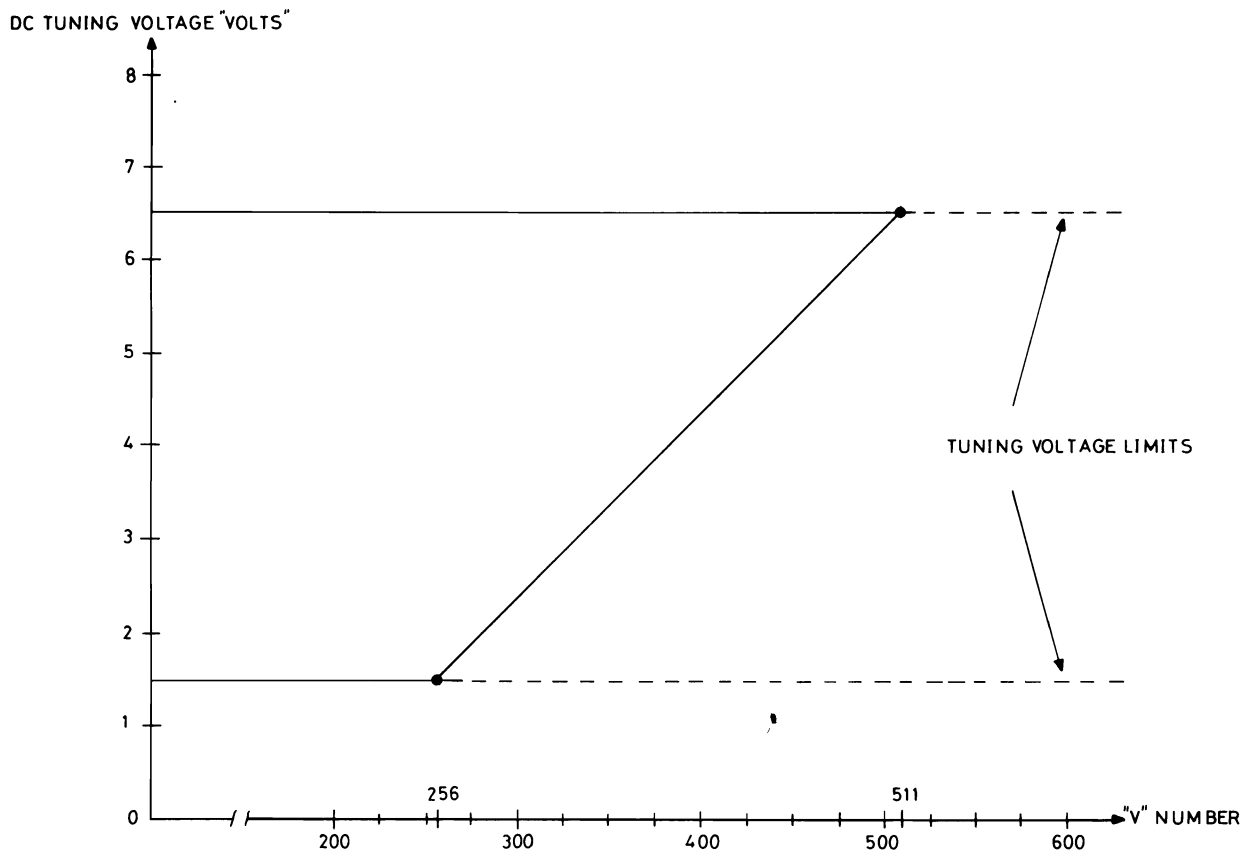

Fig. 1. Tuning voltage vs. V. number.
Adjust C745 for a voltage corresponding to the variable divider ratio (V) as indicated by the graph fig. 1.